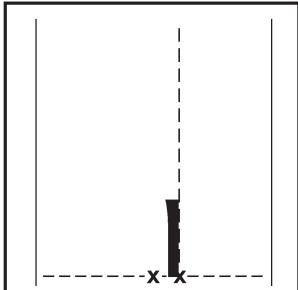

Figure 60
- Lay out the curve arrow base (liner still on) with the **RIGHT** edge against the chalk line and the base along the base line (see Figure 60).